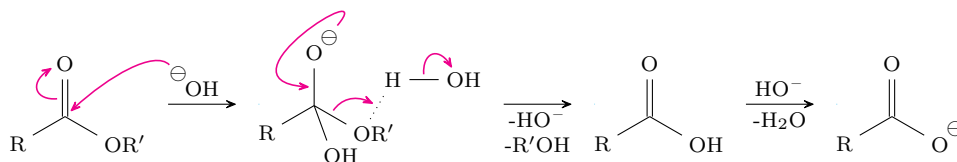

Figure 4.28: Ester hydrolysis mechanism (basic).
- The mechanism is analogous to Figure 4.28.^[7]
- The mechanism is also analogous to Figure 4.28, and we don't need base because HNR_2 is one!
- Conundrum: Like with basic ester hydrolysis (see Figure 4.28), NR'_2^- is a poor leaving group.